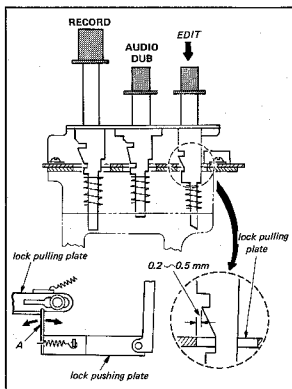

Fig. 4-20.
2. If the latch does not operate correctly, proceed as follows. In the STOP mode, make sure that the Edit button is clear of the Set Lock Bar. Clearance should be between 0.1 mm and 0.3 mm. Refer to Fig. 4-20. Bend Section A with a pair of pliers as needed to obtain the correct spacing.